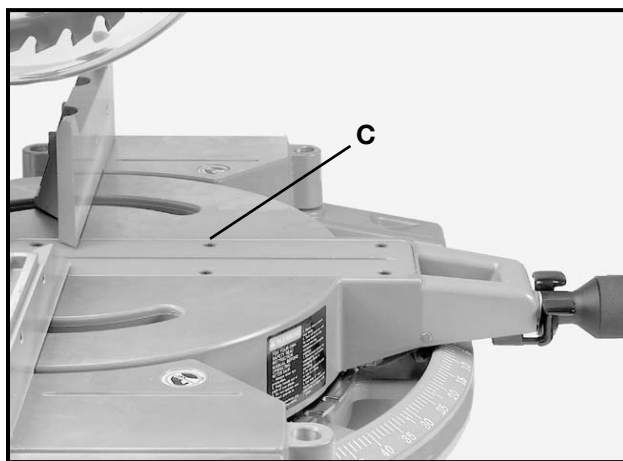

Fig. 7
2. Fig. 7 illustrates the table (C) in the 0 degree straight cut-off position.